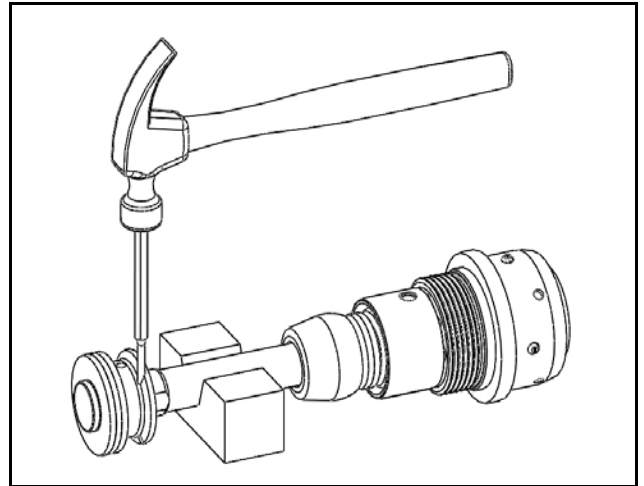

Figure 7 – Piston Head Roll Pin Removal
1. With the Impactor Assembly removed from the CIRT tool, place it on a sturdy work surface in a block to hold it steady (see Figure 7). **DO NOT CLAMP ANY PART OF THE IMPACTOR ASSEMBLY IN A VISE.** Using the 3/16" pin punch and metal hammer, drive out the Roll Pin securing the Piston Head to the Impactor (see Figure 7).
6. Block the Impactor Assembly so it does not move around to prevent damage to the Piston Head. **DO NOT CLAMP ANY PART OF THE IMPACTOR ASSEMBLY IN A VISE.** Install a new Roll Pin into the Piston Head using the metal hammer and pin punch (see Figure 7). **Note: Insert the roll pin into the enlarged hole on one side of the Piston Head which is intended to facilitate pin installation.** Ensure that no portion of the Roll Pin protrudes beyond the hole at either end.